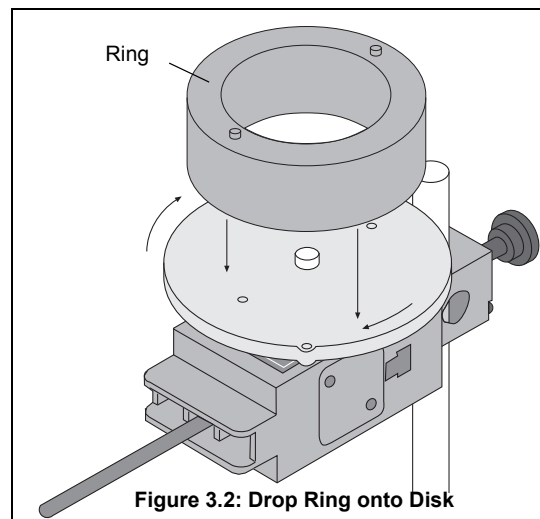

Figure 3.2: Drop Ring onto Disk
3. After about 25 data points have been recorded, drop the ring on the spinning disk. See Figure 3.2.